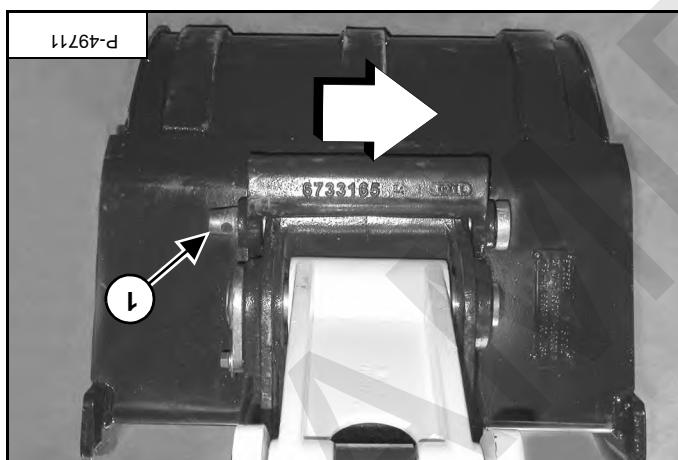

Figure 123
Drive the pin [item 1] [Figure 123] out of the attachment and X-Change mount.